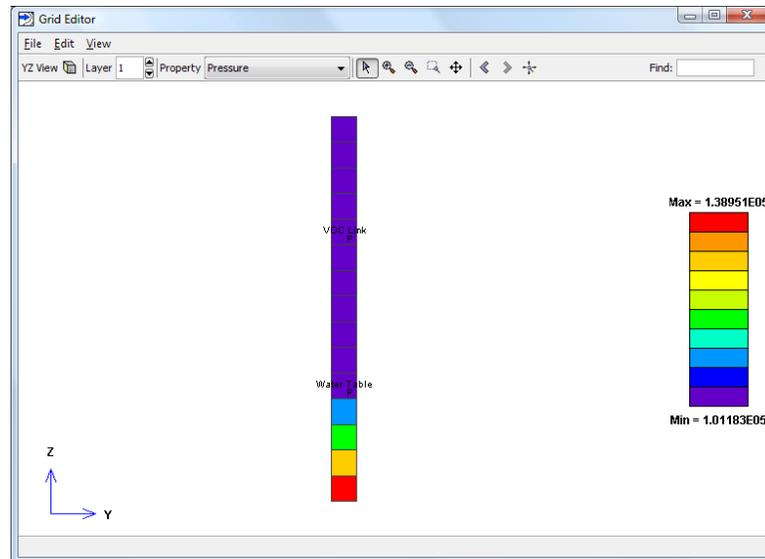

Figure 7.7. Default initial conditions.
4. The display will show the pressures from the equilibrium analysis, Figure 7.7.